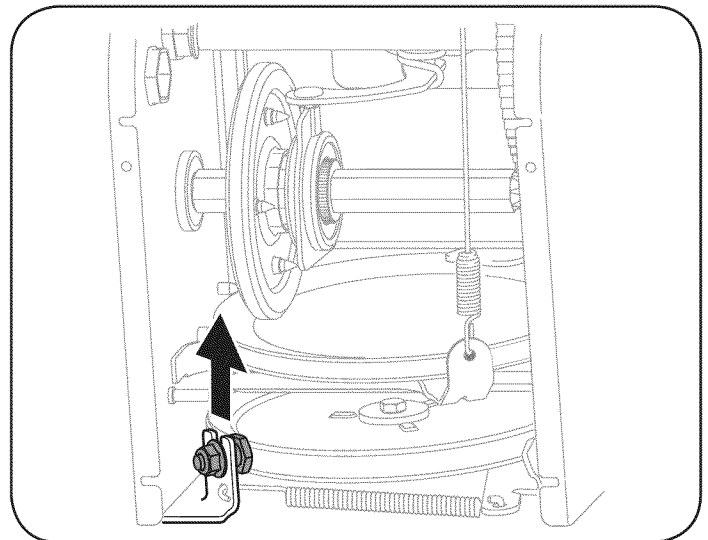
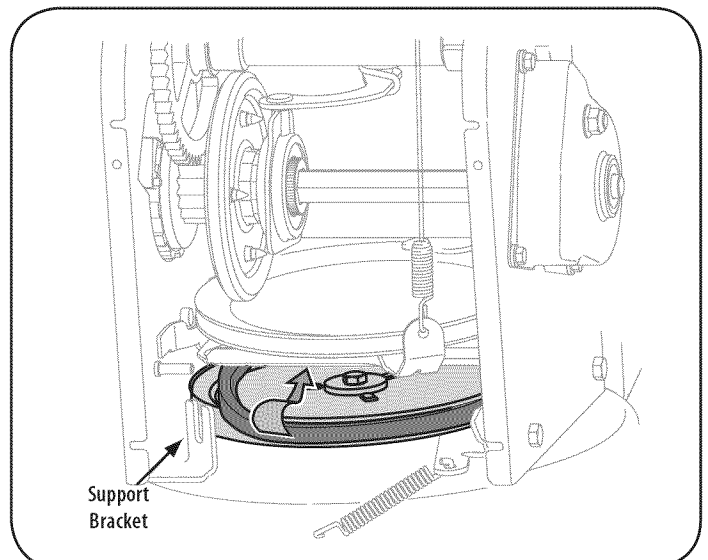

Figure 33
Figure 34
7. Loosen and remove the shoulder screw which acts as a belt keeper. Refer to Figure 33.
8. Remove the belt from around the auger pulley, and slip the belt between the support bracket and the auger pulley. See Figure 34.
NOTE: Do NOT forget to reinstall the shoulder screw and reconnect the spring to the frame after installing a replacement auger belt. See Figure 33 and Figure 34.